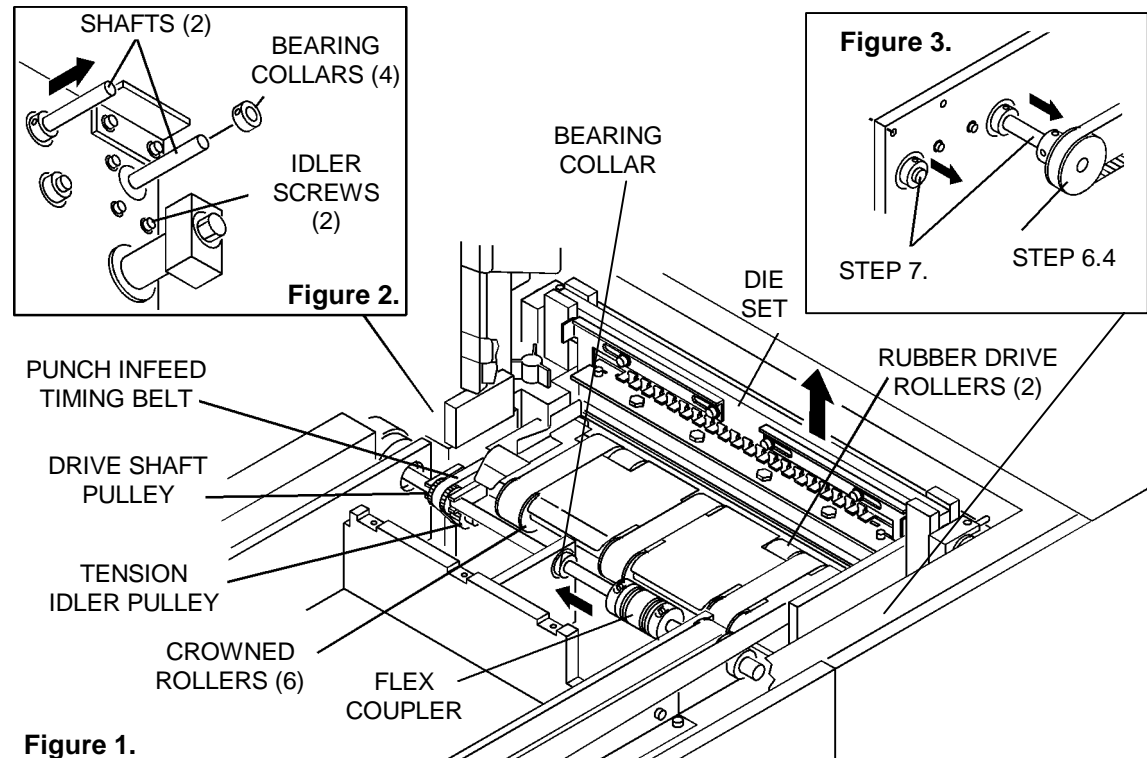

Figure 1.
6.2 the 6 setscrews in the 6 Crowned Rollers (Figure 1).
6.3 the 2 setscrews in the 2 Rubber Drive Rollers (Figure 1).